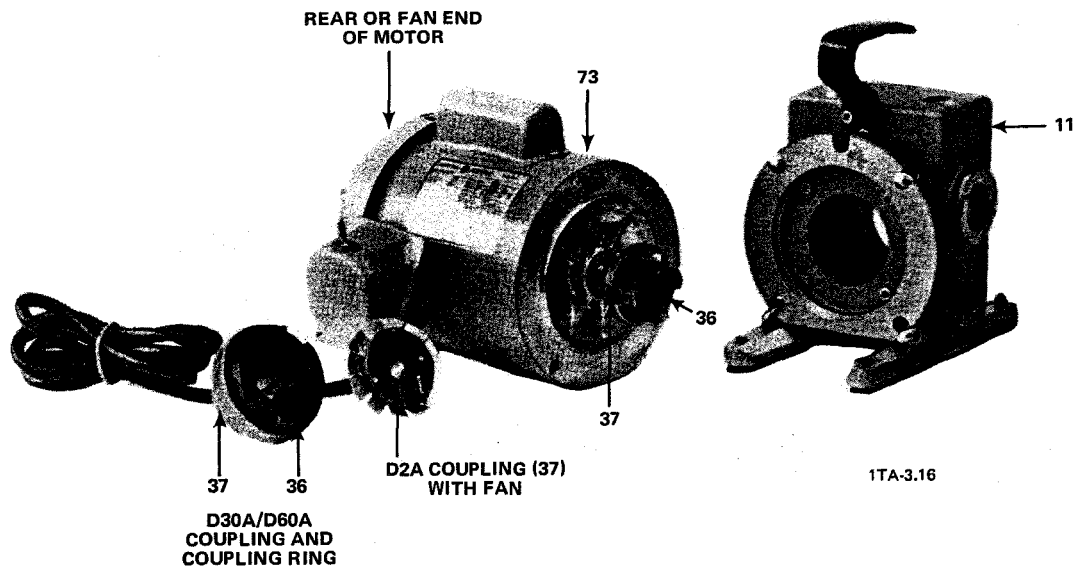

Figure 5-15. Coupling Housing and Motor (D2A Pump Model Shown)
- D-13** Using a U.S. standard wrench, unscrew and remove the four nuts and washers that attach the motor (73) to the coupling housing (11). Remove the motor from the coupling housing (see Figure 5-15).
- D-14** For the D2A, D4A, D8A, and D16A pump models only, pull the elastic element (36) off of the coupling (37) mounted on the motor shaft (see Figure 5-15).
E-7. Thoroughly clean the coupling housing (11), making certain that no dirt has accumulated in the crevices of the housing (see Figure 5-15).
- (b) Check if the fan on the rear end of the motor is rotating in the correct direction. Looking from the fan end of the motor, the fan and motor shaft should be rotating clockwise (see Figure 5-15).
b. Steps b(1) and b(2) below apply only to D30A, D60A, and D90A pump models with three phase motors.
- (1) **If the pump has a new motor supplied by Leybold**, a rotational lock bearing has been correctly installed at the factory to prevent the motor from rotating in the wrong direction. In this case, check the wiring of the motor as follows:
- (b) Check if the fan on the rear end of the motor (see Figure 5-15) rotates.
- (2) **If the motor was not supplied through Leybold or the pump has an old Leybold supplied motor**, grab the motor shaft or motor fan and attempt to turn it clockwise and then counterclockwise; then proceed as follows: